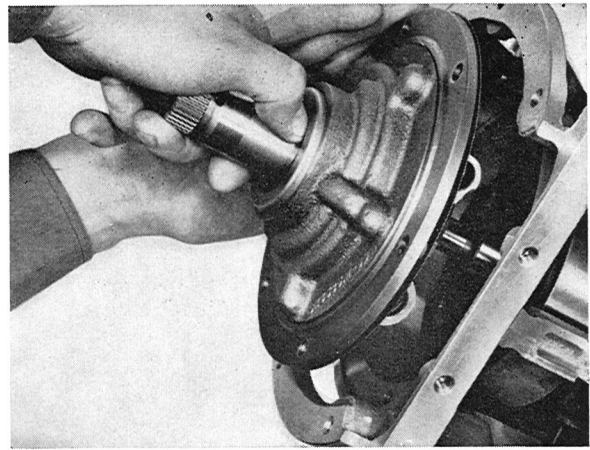

Fig. 4-95. Pump removal
22. Remove the six bolts securing the pump to the body. Withdraw the pump and remove the gasket. Push the shaft inwards when withdrawing the pump, see Fig. 4-95.